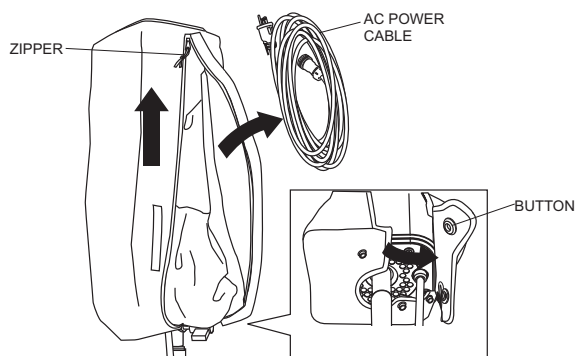

Figure 16. Removal of AC Power Cable from Balloon Cover
2. Unsnap the three buttons on the bottom of the balloon cover and unzip the cover. See Figure 16
3. Remove the AC Power Cable from the inside pocket of the balloon cover. See Figure 16.